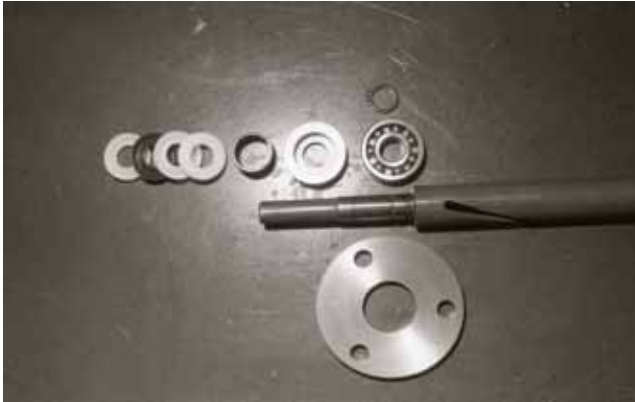

Fig. 3-115 Seal Section Components of Indicator Cam
- a) Fit the ball bearing on the indicator cam's shaft (see Fig. 3-115).